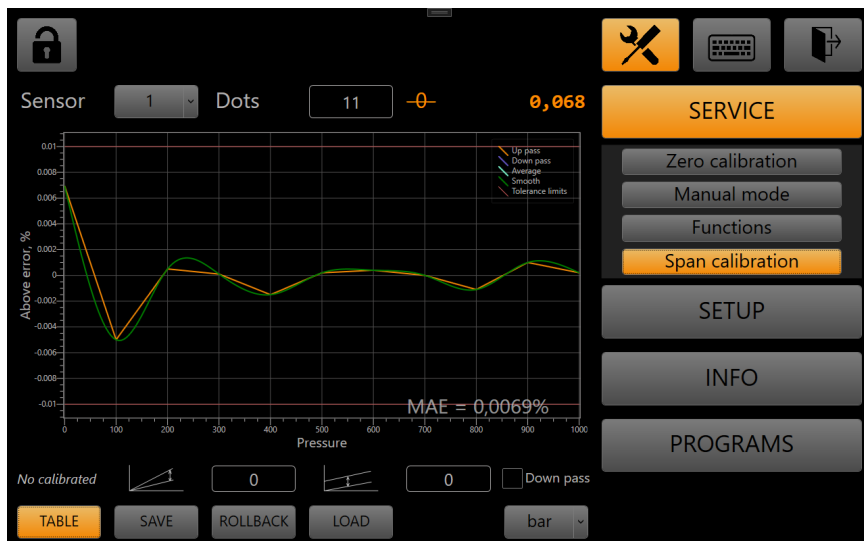

Fig. 13. Graphs of calibration of sensors
7.8.2.4 To view the reduced error graph, press the **ГРАФИК [Graph]** button (Fig. 13).